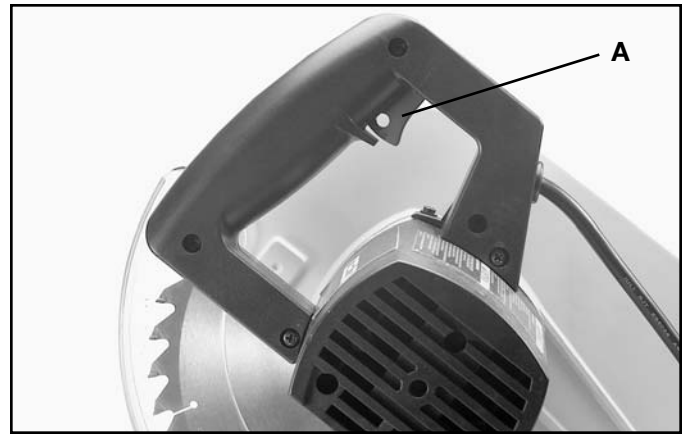
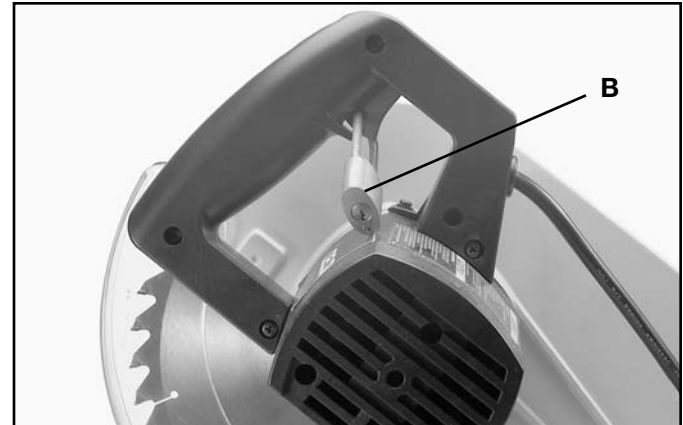

Fig. 12
Fig. 13
To start the machine, depress switch trigger (A) Fig. 12. To stop the machine, release the switch trigger.
This miter saw is equipped with an automatic electric blade brake. As soon as the switch trigger (A) Fig. 12, is released, the electric brake is activated and stops the blade in seconds.
**⚠ WARNING: A TURNING SAW BLADE CAN BE HAZARDOUS. AFTER COMPLETING CUT, RELEASE SWITCH TRIGGER (A) FIG. 12, TO ACTIVATE BLADE BRAKE. KEEP CUTTINGHEAD DOWN UNTIL BLADE HAS COME TO A COMPLETE STOP.**
**IMPORTANT:** When the miter saw is not in use, the switch should be locked in the "OFF" position using a padlock (B) Fig. 13, (with 3/16" diameter shackle) through the two holes (A) Fig. 12 in the switch plate, as shown in (A) Fig. 12. NOTE: Padlock shown is available as accessory Model 50-325.